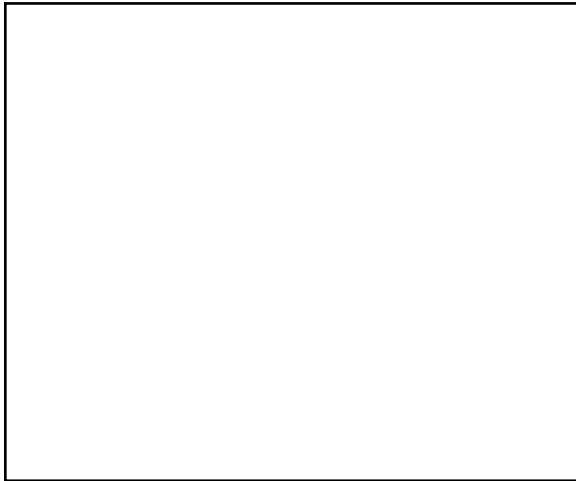

Figure 11a
3. Open the red handled lever to remove pressure from the thermal head. (see **figure 11a**)